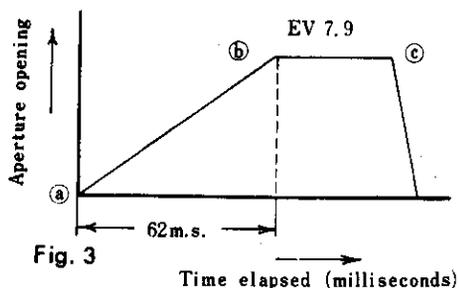

Fig. 3
Because the triangular wave-form shutter has the above-mentioned advantages, it is adopted as the between-the lens shutter for the Hi-Matic F (168). It has a curve as shown in Fig.3.
A bright subject (EV 7.9 to EV 17) is programmed within the area from (a) to (b) shown in Fig.3, while a dark subject (EV 7.9 or less) is programmed within the area from (b) to (c) shown in Fig.3.
The shutter curve is shown in Fig. 3, and programming is different according to the brightness of the subject, i. e., that of more than EV 7.9 and that of less than EV 7.9.